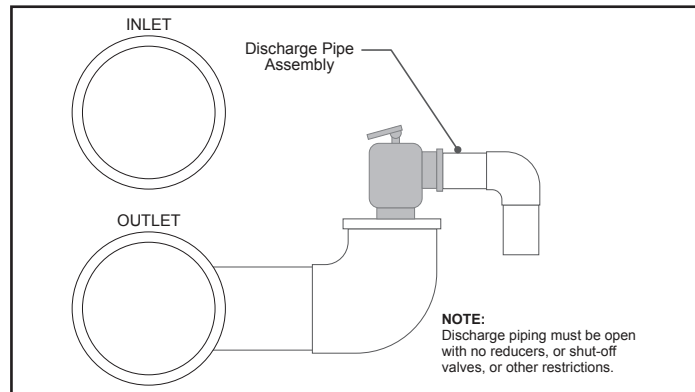

Figure 12. Pressure Relief Valve install
- Install the PRV so that it is vertical. See *Figure 12*.
- Locate the water outlet port on the inlet/outlet header side of the heater. This is the bottom port which returns water to the pool and/or spa. See *Figure 12*.
- Using PVC or CPVC plastic pipe and fittings, install a 50 mm (2") tee. See *Figure 12*.